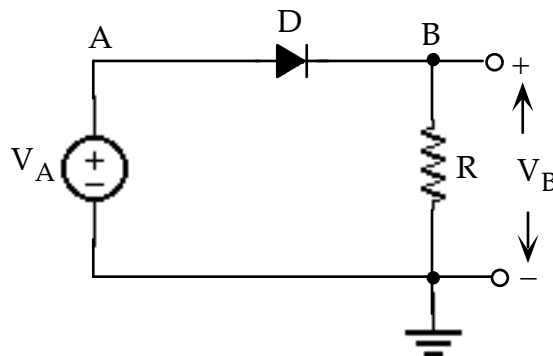

Figure 1 Basic Rectifier Circuit
- (a) Consider the rectifier circuit in Fig. 1 with load resistance $R = 1\text{ k}\Omega$ load. Let the input V_A be a 10 V peak triangle wave at 100 Hz, sketch the input and output waveforms, V_A and V_B , respectively.
- a) Assemble the circuit shown in Fig. 1, using a 1N4004 diode and $1 \text{ k}\Omega$ resistor.